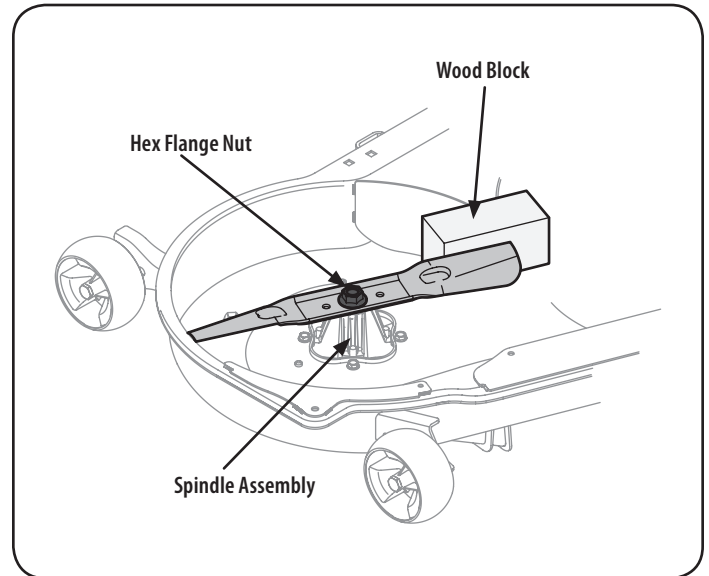

Figure 39
2. Use a $1\frac{5}{16}$ " wrench to hold the hex nut on top of the spindle assembly when loosening the hex nut securing the blade. A block of wood may be placed between the deck housing and the cutting edge of the blade to help in breaking loose the hex nut securing the blade. See Figure 39.